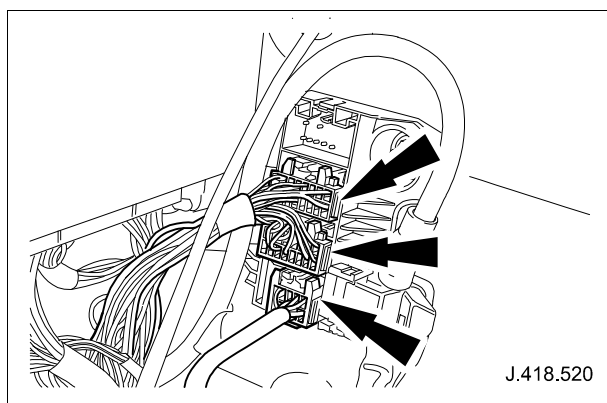

Fig. 6
- 3.1 Check that all connections at secondary junction box are pushed fully home and are not damaged i.e. bent/backed-out (see Fig. 6). Where available, utilize opposing pins from the harness repair kit and insert into populated pins to ensure a good/tight fit is achieved.